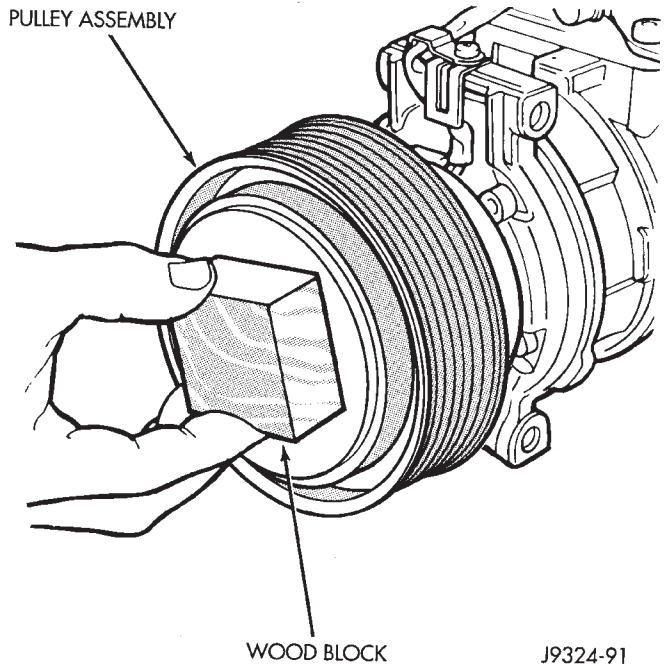

Fig. 10 Pulley Assembly Install
(4) Install the pulley assembly onto the compressor. If necessary, place a block of wood on the friction surface and tap gently with a hammer (Fig. 10).